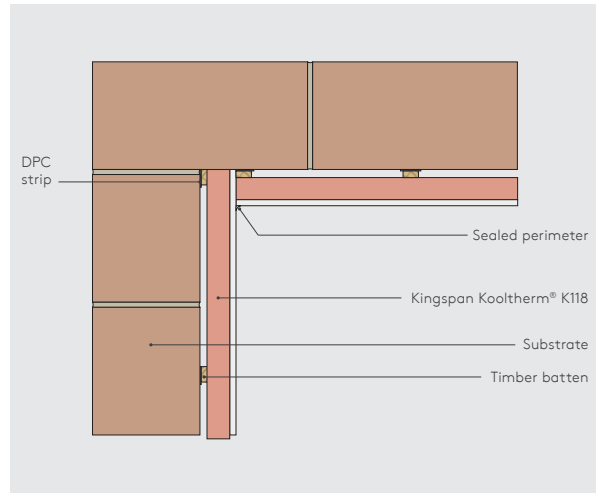

Figure 10 - Internal Corner Detail
- For external corners (including reveals), the lining should run past the corner and the insulating backing of Kingspan Kooltherm® K118 should be cut back to create a junction (see Figures 10 & 12). Sheets should be cut and rebated to allow a plasterboard / plasterboard joint at the angle (see Figures 10 & 11).
- Ensure sheets are lightly butted and air gaps minimised to reduce the risk of cold bridging (see Figures 10 & 12). Any air gaps should be sealed with flexible sealant or equivalent, or a combination of flexible polyurethane foam and flexible sealant or equivalent.